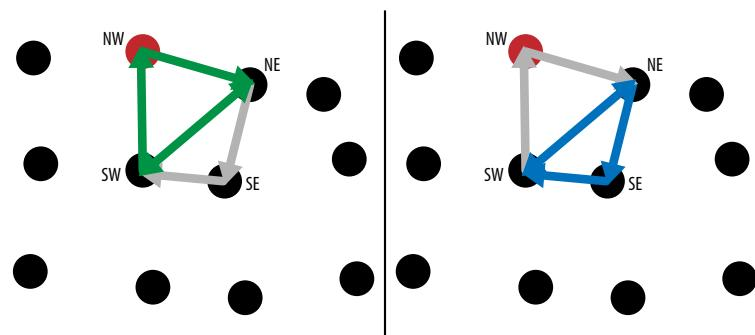

Figure 5-13. The two triangles that connect a depth point with its neighbors.
- ⑩. Once we've calculated these four indices we can access the depth points that will make up the vertices of the triangles we're going to add to our mesh. But now the question presents itself: which vertices should we connect to form each triangle and in what order? We know from our earlier experience working with MeshLab that we want to add vertices clockwise so that we follow the righthand rule as illustrated in Figure 5-5. So, in this case, we'll split the surface defined by our four vertices into two triangles: NW to NE to SW and NE to SE to SW, as shown in Figure 5-13.